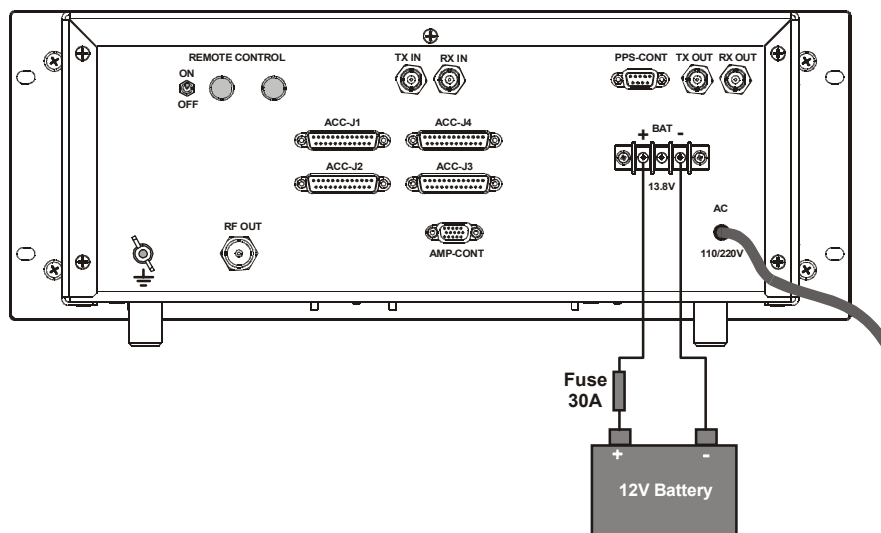
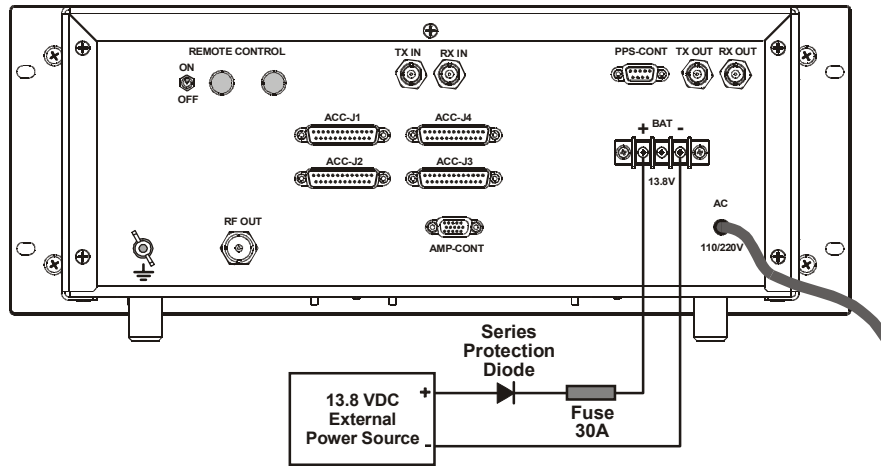

Figure 6. RM125/RM125R Connections to External Battery
Figure 7. RM125/RM125R Connections to DC Power Source
Figure 6 shows the connections to an external 13.8 VDC lead-gel or lead-acid battery, and Figure 7 shows the connections to an external DC power source. As the arrangements needed for these connections depend on the specific site, all the accessories required for the connections shown in these figures must be provided by the customer.
2. Refer to Figure 6 or Figure 7, as appropriate and start by making the connection to the negative (-) BAT terminal of the RM125/RM125R.